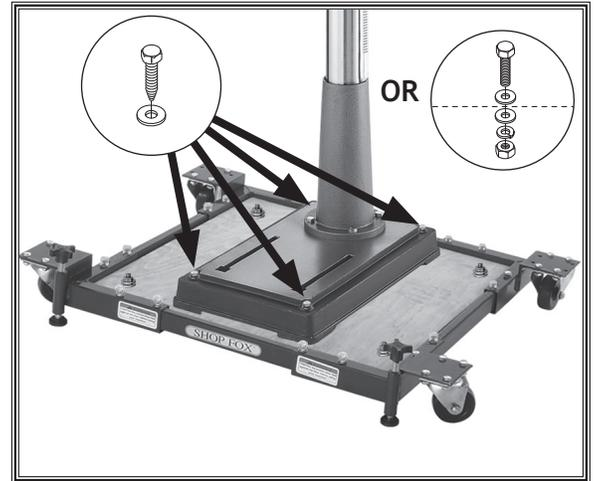

Figure 25. Example of drill press mounted on mobile base, using a base plate for support.
If the footprint of the machine is too small for your mobile base, you can mount it to a base plate, as shown in **Figure 25**.
9. Mount the machine to the base plate with lag bolts and flat washers (see **Figure 25**); or drill holes through the base plate and secure the machine with through bolts, flat washers, and hex nuts.